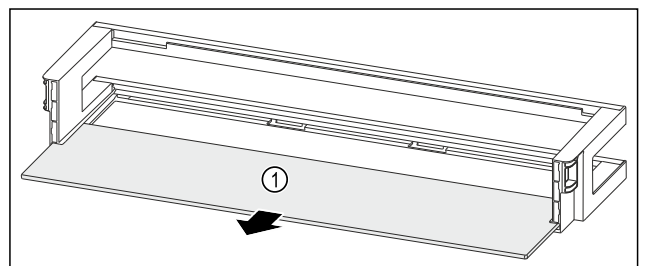

Fig. 140 Door rack with shelf
- ▶ Remove the shelf Fig. 140 (1).